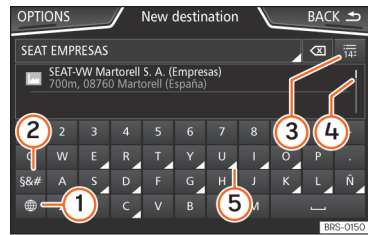

Fig. 146 Input window with on-screen keypad.
Matches are suggested on the input line » Fig. 146 (4). In the case of compound names, it is necessary to enter a space.